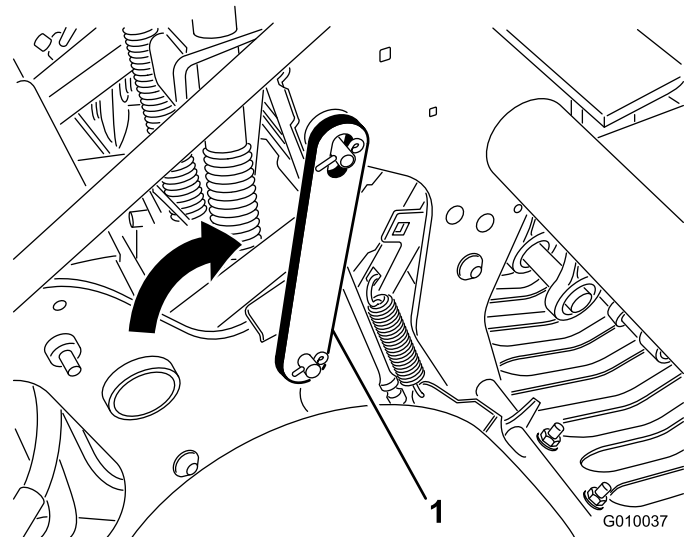

Figure 21
3. Pivot the service latch rearward and insert it onto the coring head pin (Figure 21). Secure it with the clip ring.